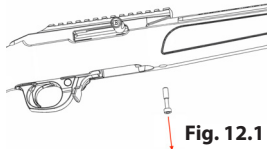

Fig. 12.1
- Loosen the stock screw (Fig. 12.1).